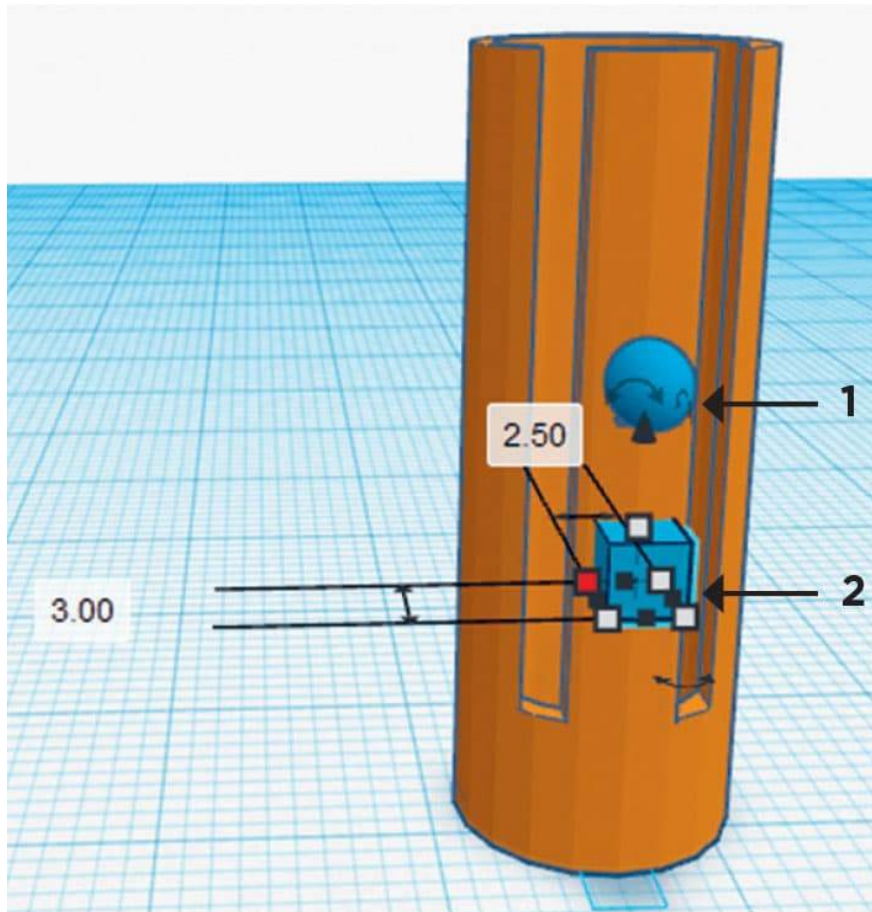

FIG. 5: Add a button and a lock to the button strip.
6. Next, we add the button and the lock to the button strip to create the on-off button/actuator. The push button is 2 mm × 2 mm. The lock is a sphere, 2mm in diameter. The dimensions of the button and lock should be smaller than the corresponding holes on the head casing. In fig. 5, arrow 1 identifies the lock and arrow 2 identifies the on/off button.